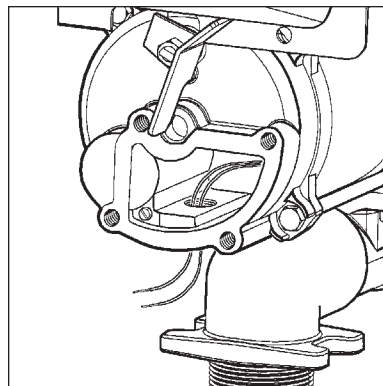

Figure 1
1. Remove electrical coverplate (Figure 1). Install conduit and cable from switchbox to pump electrical box. Use only code specified 2-conductor cable with ground wire.